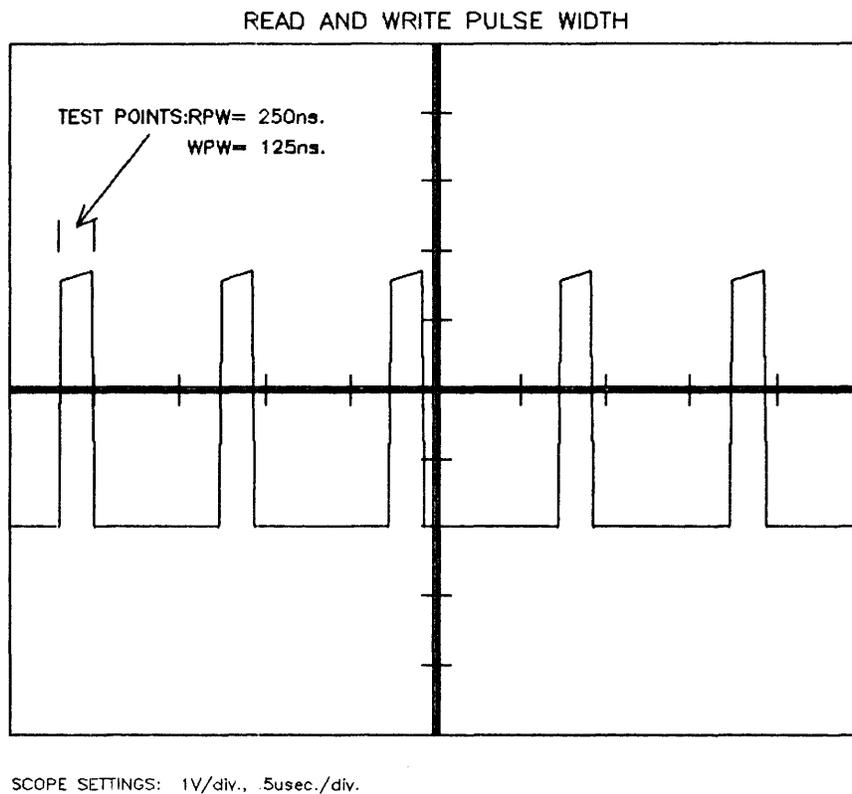

Figure 4-4
3. Observe the waveform pulse-width (see figure 4-4). The pulse width should be 250 ns. \pm 10%.